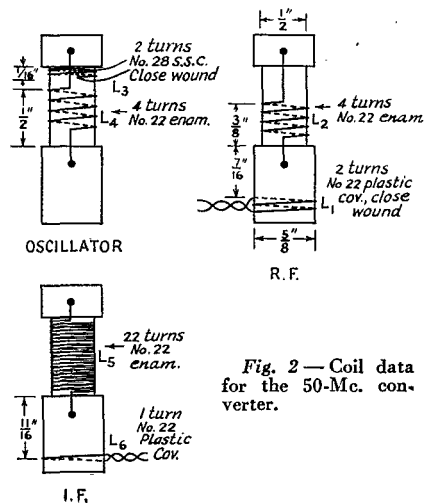

Fig. 2 — Coil data for the 50-Mc. converter.
- L₁ to L₆, inc. — See Fig. 2.
Construction of the coils is shown in Fig. 2.